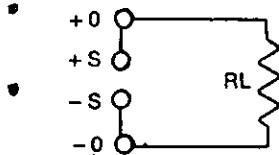

Fig. 3
**LOCAL SENSING:** ECONOMATE II power supplies are factory wired for local sensing. Sensing terminals are located on the PC board. A jumper connecting the DC output and sensing terminals provides local sensing as shown in Fig. 3.